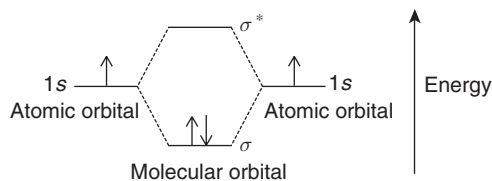

Figure 13 MO diagram of  $H_2$ .
Furthermore, the MO theory has been very useful and successful in predicting the magnetic behavior of molecules. In filling up the molecular orbitals, if a molecule contains no unpaired electrons then it is diamagnetic and if it contains one or more unpaired electrons then it is paramagnetic. The diagram showing the relative energy levels of the combining atomic orbitals, the molecular orbitals formed from them and the order of filling up of the electrons is called the molecular orbital (MO) diagram. The orbitals of the individual combining atoms are written on either side of the diagram as horizontal lines at heights denoting their relative energies. The electrons in each atomic orbital are represented by arrows. The molecular orbitals of the molecule are represented in the middle of the diagram. Dashed lines connect the parent atomic orbitals with the molecular orbitals. For example the MO diagram for the simplest molecule,  $H_2$ , is shown in Figure 13.